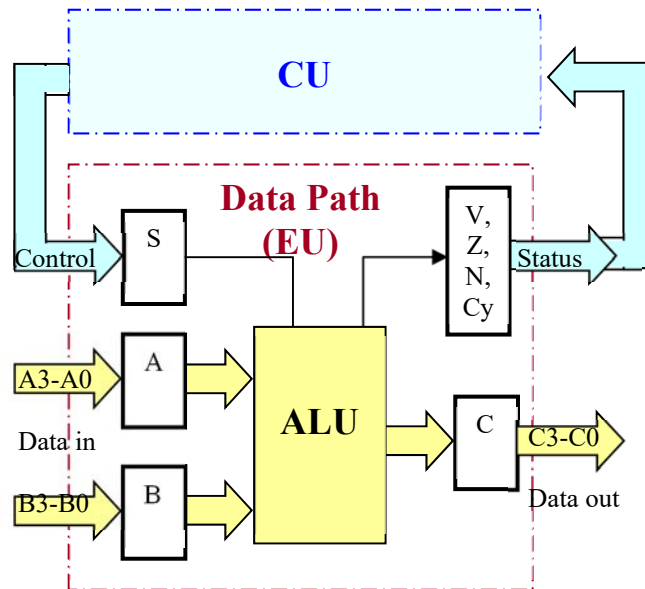

Figure 1: ALU block diagram
The Central Processing Unit (CPU) consists of a Control Unit (CU) and a Datapath (execution unit – EU) shown in the block diagram of Figure 1. The CPU's datapath contains registers to store data (A, B, C) and control (S) / status (V,Z,N,Cy) information, along an Arithmetic and Logic Unit (ALU). You have to design CPU's datapath that can perform arithmetic, shift and logic operations. Your datapath module will handle two types of signals:
- Control/status: S3-S0/(V, Z, N, Cy) – marked in light blue in Fig. 1